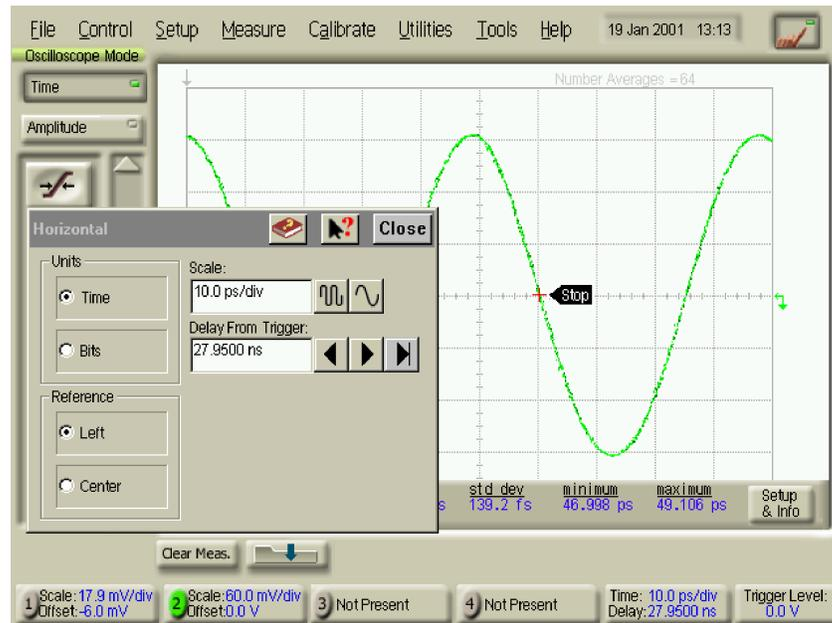

Figure 2-6. Delay Settings for Measuring Time Interval Accuracy
- 16 On the DCA screen, press Time Delay to set the Delay. See Figure 2-6. After changing the delay, press the Clear Display hardkey before making the next measurement.